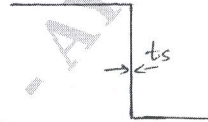

Fig. Q6 (a)
- b. Find the distance 'e' in the shown Fig. Q6 (b), if the maximum shearing stress on most heavily loaded rivet is to be 80 MPa. Diameter of rivets is 18 mm. (08 Marks)